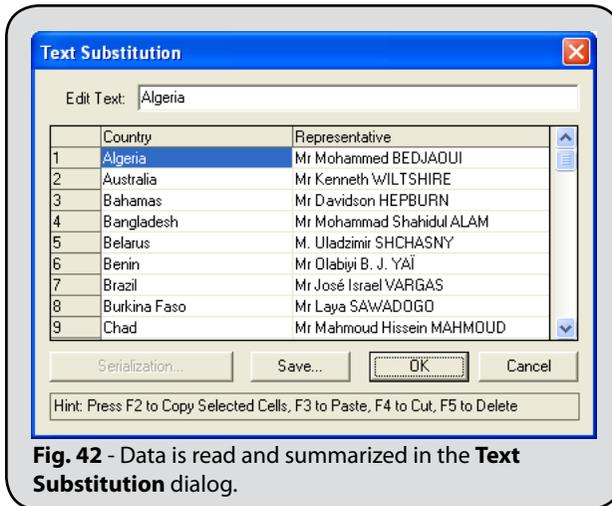

Fig. 42 - Data is read and summarized in the **Text Substitution** dialog.
- The **Text Substitution** dialog will open (Fig. 42).